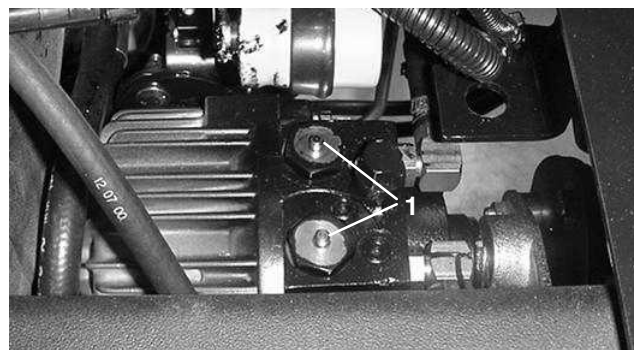

Figure 26
2. Depress and hold the pins located in the center of the two (2) check valve assemblies in the top of the transmission (Fig. 26) while pushing or towing the machine. Figure 26 is shown with seat and seat mounting plate removed.
Apply a liberal coating of grease to the check valve pins once each year (Fig. 26). Also grease the bearings in the rear axle every 500 hours, or yearly, whichever comes first (not shown). The bearing and bushing lubrication points are: